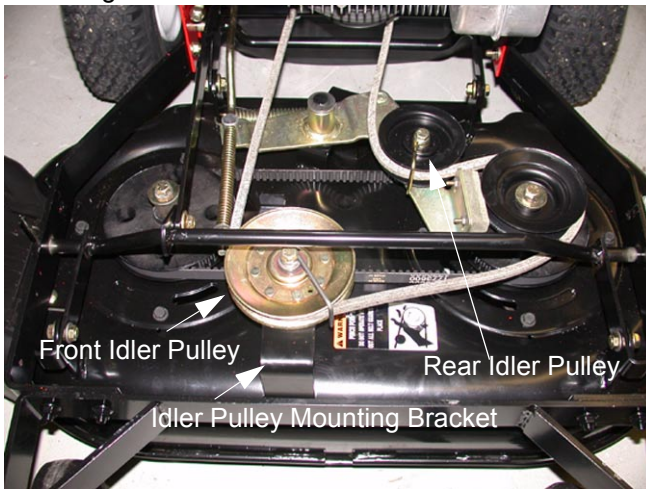

Figure 8
- 1.4. Using a 9/16 inch socket and opened end wrench, remove the front idler pulley to allow the belt to be removed from around the pulley. See Figure 8.
- 1.5. Using a 9/16 inch socket and opened end wrench, remove the rear idler pulley to allow the belt to be removed from around the pulley. See Figure 8.
NOTE: Maintain orientation of belt guides during reassembly. See Figure 8.